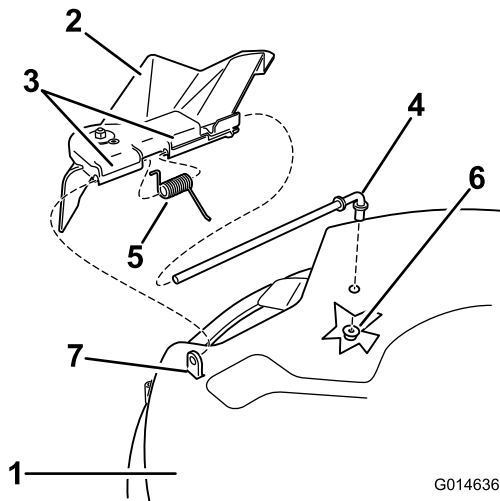
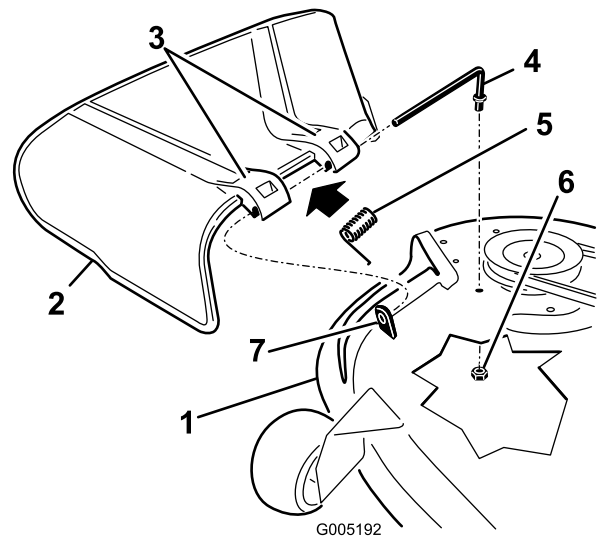

Figure 65
Figure 66
1. Remove the nut (3/8 inch) from the rod under the mower (Figure 65 and Figure 66).
2. Slide the rod out of the short stand-off, spring, and grass deflector (Figure 65 and Figure 66).
4. Replace the grass deflector (Figure 65 and Figure 66).
7. Slide the rod through second grass deflector bracket (Figure 65 and Figure 66).
9. Secure the rear end of the rod into the mower with a nut (3/8 inch) as shown in Figure 65 and Figure 66.